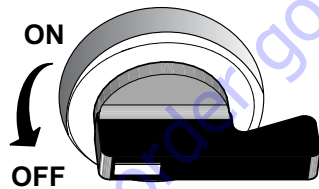

**Figure 16. Engine ON/OFF Switch (Start)**
- Place the ignition key (Figure 16) in the **START** position and hold it until the engine starts. When the engine starts, release the key, allowing it to return back to the **ON** position.